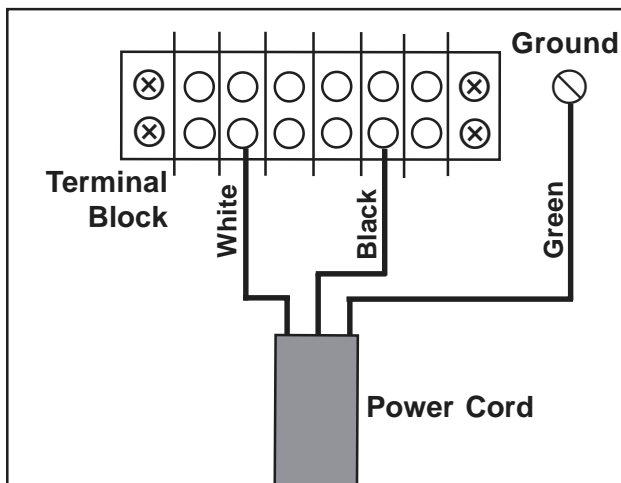

Figure 124. Power Cord Connections
2. Connect the three wires to the terminal strip and the ground as shown in Figure 124.